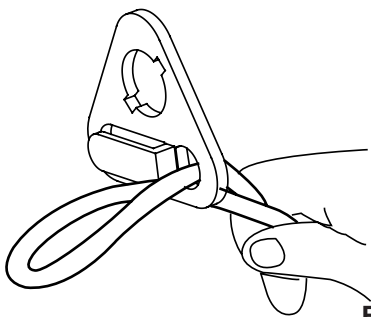

Fig. 5
- Push the loop through the bottom hole in the retainer (See Figure 5).